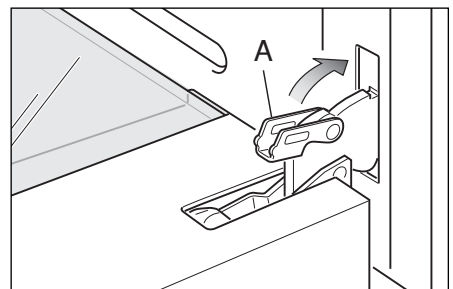

Fig.24d
- 4 Unlock the oven door by opening it completely and closing the lever "A" on the left and right hinges (Fig. 24d)